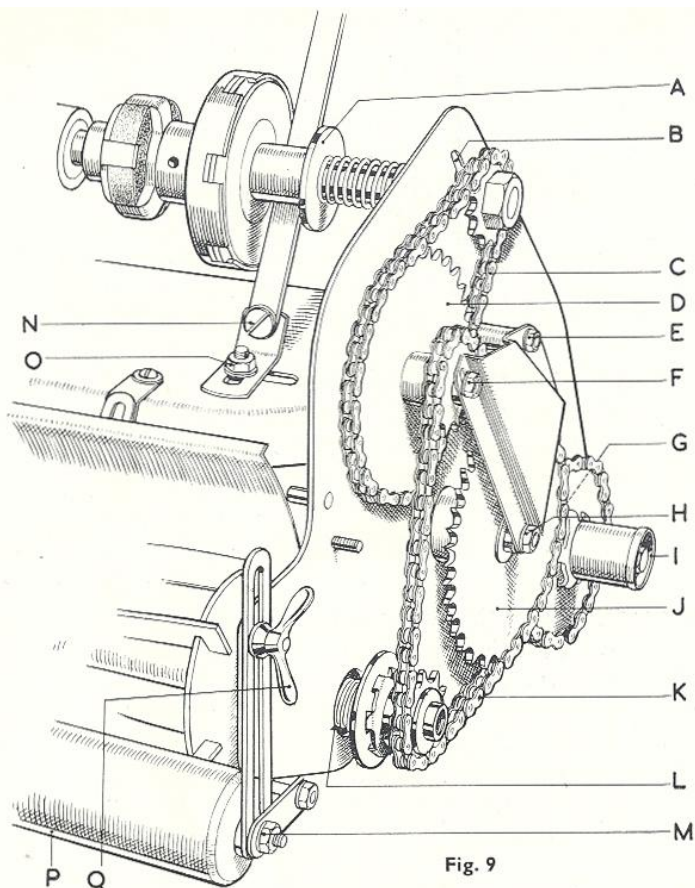
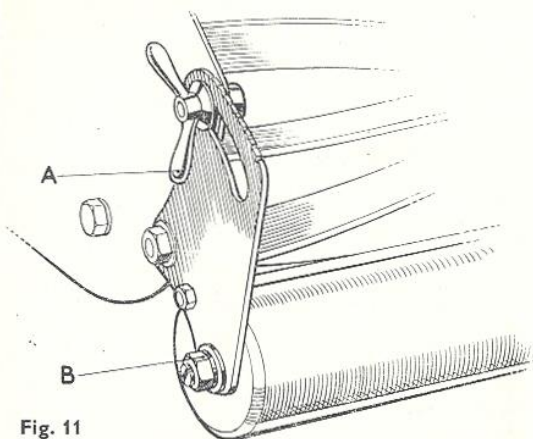

Fig. 9
Fig. 11
Place a spot of oil between the pad on the clutch operating lever and clutch withdrawal collar (A, Fig. 9) frequently, to ensure machine drawing backwards freely.
- (b) Between the front rollers (P, Fig. 9) and on the shaft at each end. From time to time the front rollers and
shaft should be removed, thoroughly cleaned and lubricated. To do this (12" model) remove the nut (M, Fig. 9) on front roller shaft and wingnut on the front roller bracket on either side of machine. Remember to replace washers between rollers during re-assembly. (14" model) It is only necessary to remove nut (B, Fig. 11) on either side of machine to release front roller shaft through slots provided.
ings (B and G, Fig. 9), through slots in side frame located between chain wheels and side frame.
Cutter shaft bearing (L, Fig. 9), through cutters adjusting slot.
- (d) On the spindles on either side of the intermediate chain wheels (D and J, Fig. 9).
- (e) Sliding member of roller drive release (I, Fig. 9).
- (f) Clutch pivot pin (N, Fig. 9).
Clutch to upper intermediate chainwheel (C, Fig. 9) and cutters to lower and upper intermediate chainwheels
(K, Fig. 9). Loosen three nuts (E, F and H, Fig. 9) securing transmission spindles support plate. By slackening the upper intermediate chainwheel (D, Fig. 9) spindle nut, located on the inside face of the side frame, both chains can now be adjusted by moving the upper intermediate chainwheel assembly in the desired direction. Allow a little free movement of chains. Tighten the inside spindle nut and finally the other three nuts. *Check that there are no "tight spots" on chains by rotating cutters backwards. Re-adjust, if necessary.*
For height of cut. Slacken off wing nuts (Q, Fig. 9), and (A, Fig. 11) one on each side of machine, and raise rollers for a shorter cut and lower for a longer cut. Tighten nuts firmly.